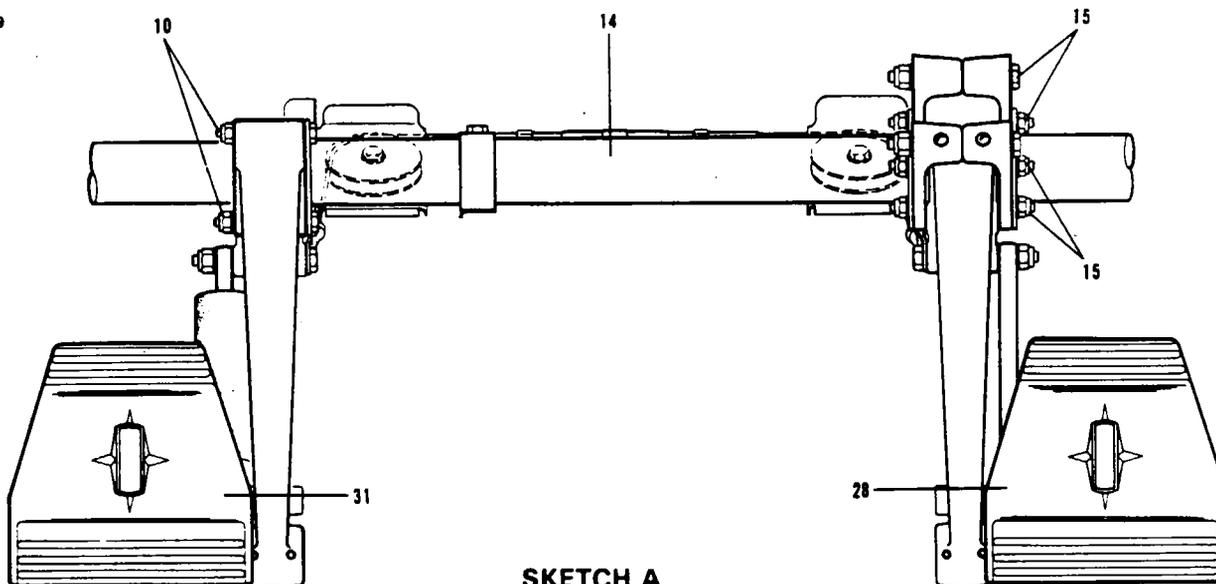

Figure 32-23. Rudder Pedal Installation
#### **REMOVAL OF PEDAL ASSEMBLY. (Refer to Figure 32-23.)**
**INSTALLATION OF PEDAL ASSEMBLY.** (Refer to Figure 32-23.)